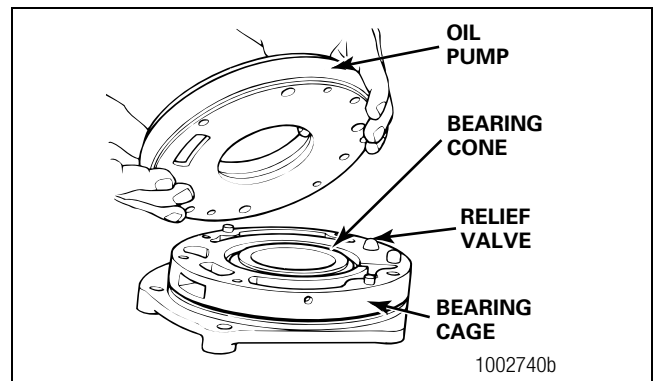

Figure 3.35
- D. Remove the capscrews that fasten the oil pump to the input bearing cage. Separate the oil pump from the cage. Figure 3.35.